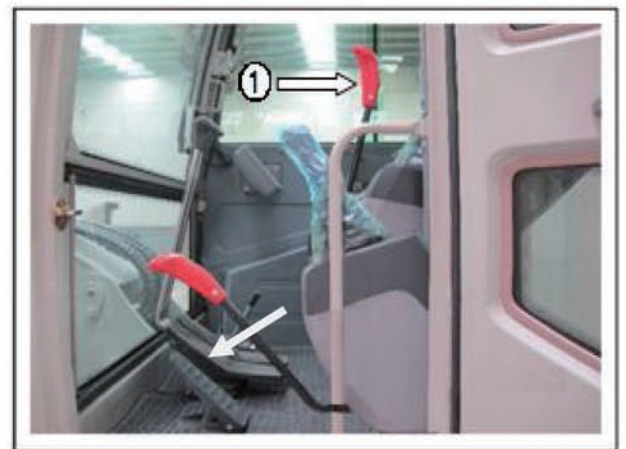

Fig 3-27
2. put safety rod ① (Fig 3-27) on “unlock” position.